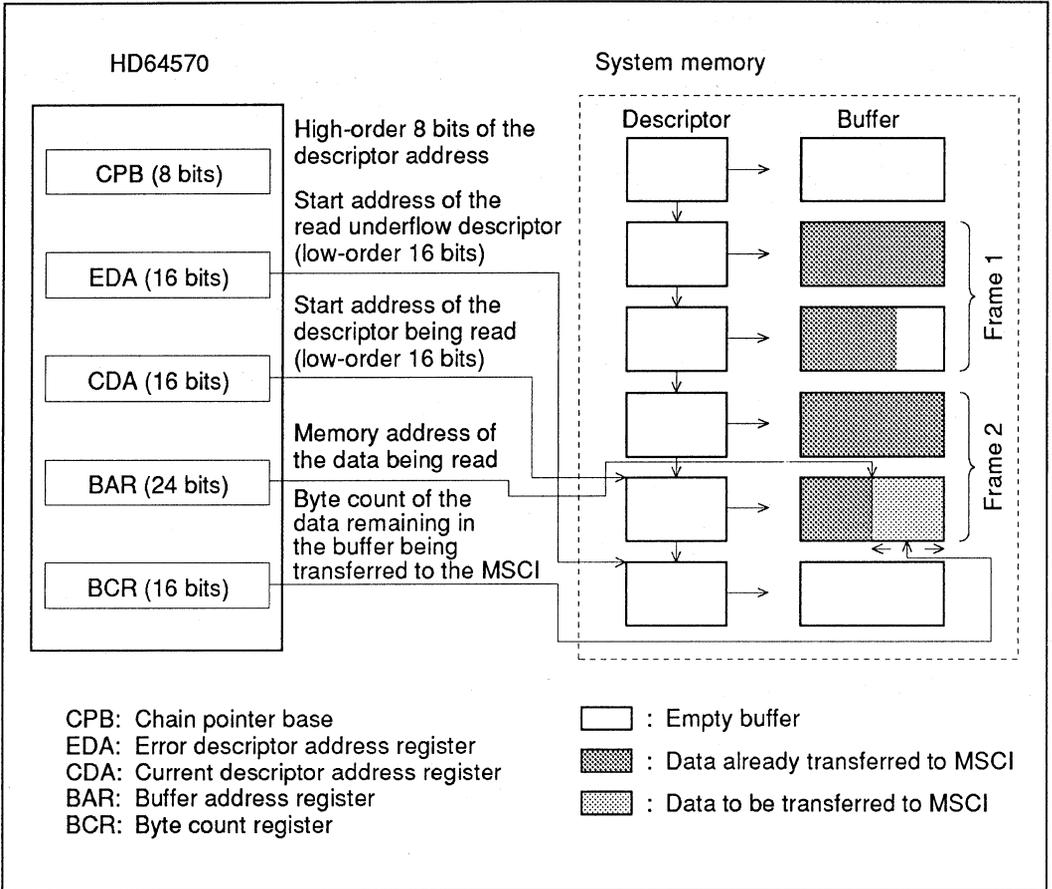

Figure 6-13 Memory-to-MSCI Chained-Block Transfer Mode
Memory-to-MSCI chained-block transfer mode is shown in figure 6-13.
The operation flow in memory-to-MSCI chained-block transfer mode is shown in figure 6-13. As shown in the figure, a DMA transfer starts with loading the contents of the descriptor specified by CPB and CDA into the SCA internal registers. The DMAC then transfers data to the MSCI transmitter from the buffer corresponding to the descriptor specified by CPB and CDA. At this time, the DMAC writes the 24-bit memory address of the buffer currently being read to the buffer address register (BAR) and the number of bytes remaining unread in the buffer to the byte count register (BCR). When data transfer starts, the DMAC writes the BP value of the corresponding descriptor to BAR and the data length (DL) value of the corresponding descriptor to BCR.